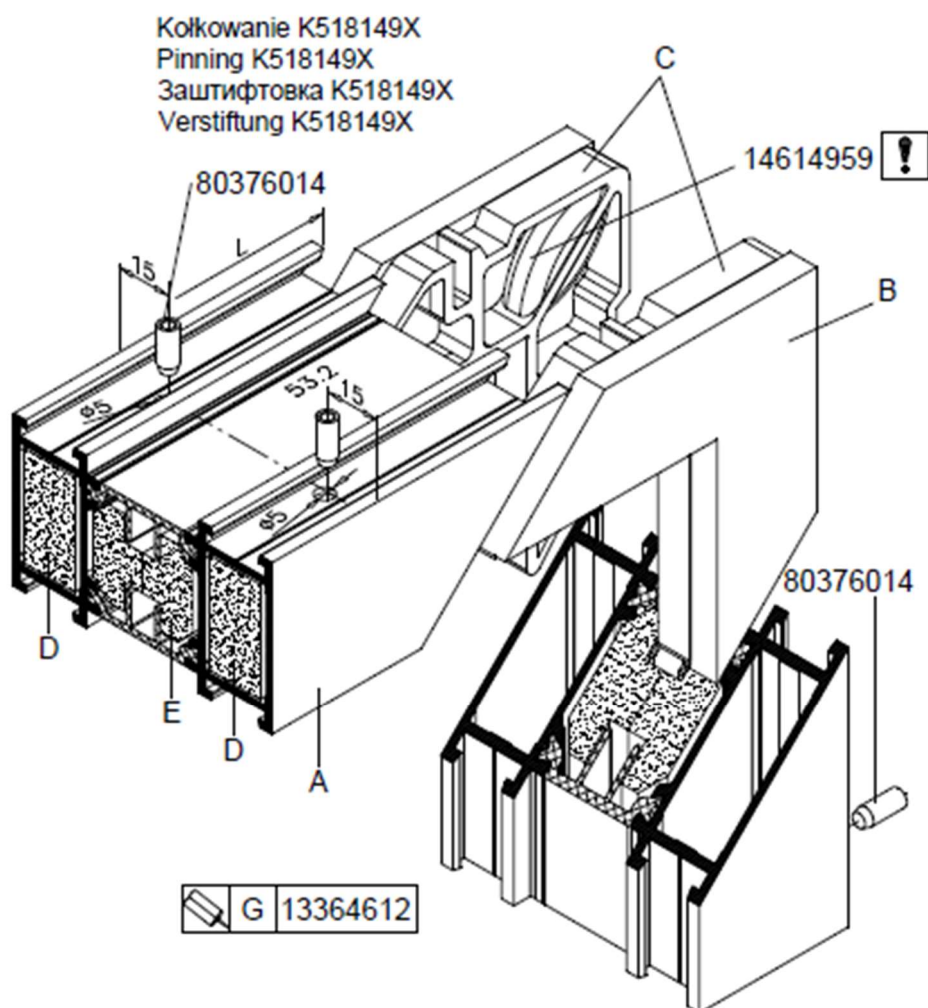

Fig. 22 'L' connections for circumferential door system frames
- making 'L' connections with the use of dowels in the door system frame corners using system-specific connectors, catalogue no. 80124270 ; 80124271; 80124321 or 80124322 as shown in Fig. 22,
- place insulation inserts made of materials appropriate for given fire resistance class and of appropriate angle and length in the respective chambers, according to Table 2 and Fig. 22,
Connections are to be made in accordance with Fig. 22.